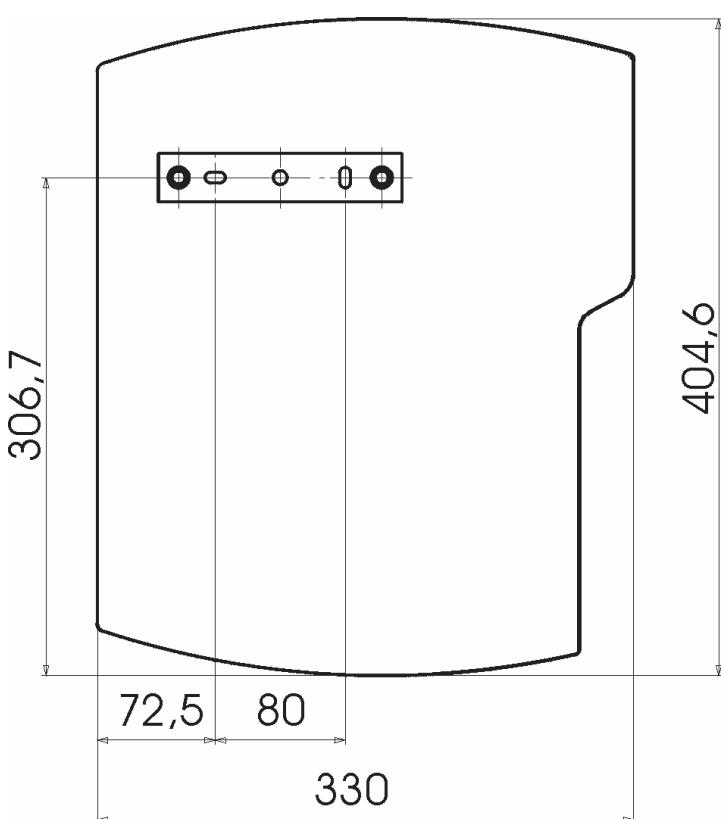

Fig. 3a: Drilling dimensions
- Pull feed line (A) and return line (B) out of the mounting plate (23).
- Mark drilling points for the mounting plate (23) on the wall and drill two 8mm holes (Fig. 3a)